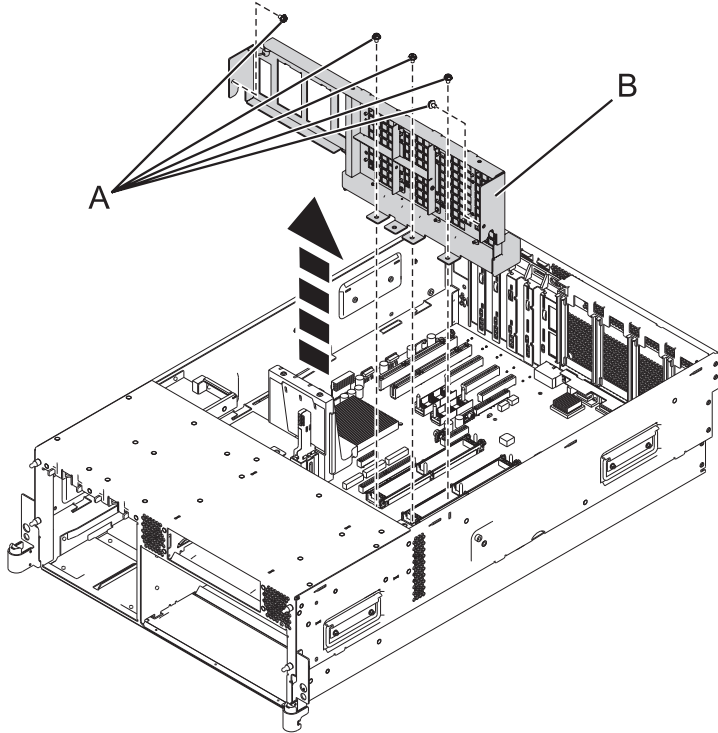

Figure 8. Removing the front processor support
- a. Remove the five screws (A) that are securing the processor support to the system backplane. See Figure 8 on page 13.
- b. Grasp the front processor support (B) and lift it out of the system.